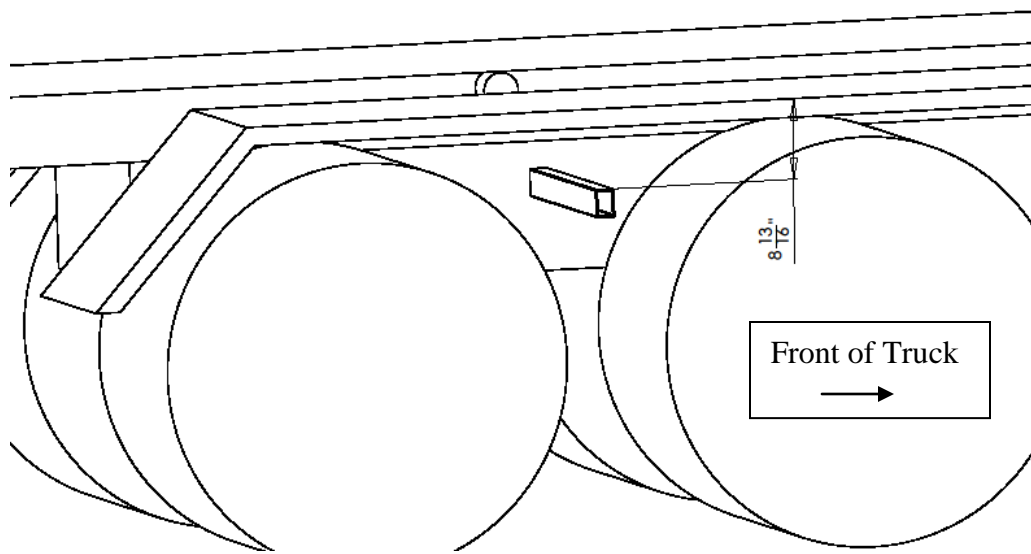

Figure 4
- 2) The mounting kit is designed to have the rear mounting leg to be placed centered between the drive axles. To insure clear clearance the top of the tube should not be more than 8 13/16" down from the top of the tire or fender, as part of the pivot box will sit above the tire or fender. (Refer to Fig. 4)